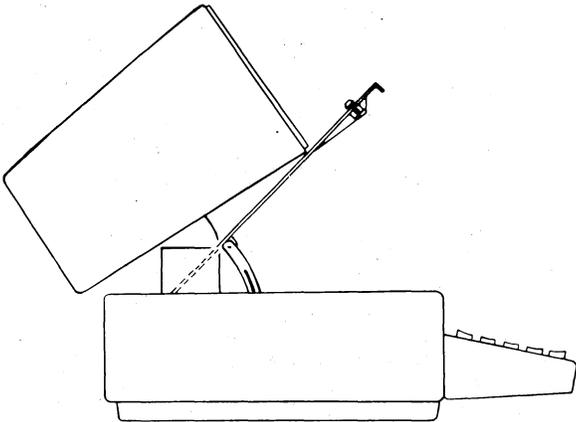

Figure 2 - DATASPEED 40 KDP With Cover Latched in the Up Position
1.09 All the lubrication points on the printer can be reached by opening the cabinet and tilting the printer up, refer to Figures 2, 3, and 4. To access the printer perform the following instructions.
Note: If the printer is located under the monitor, tilt monitor back, open cabinet cover to the latched position (Figure 2).